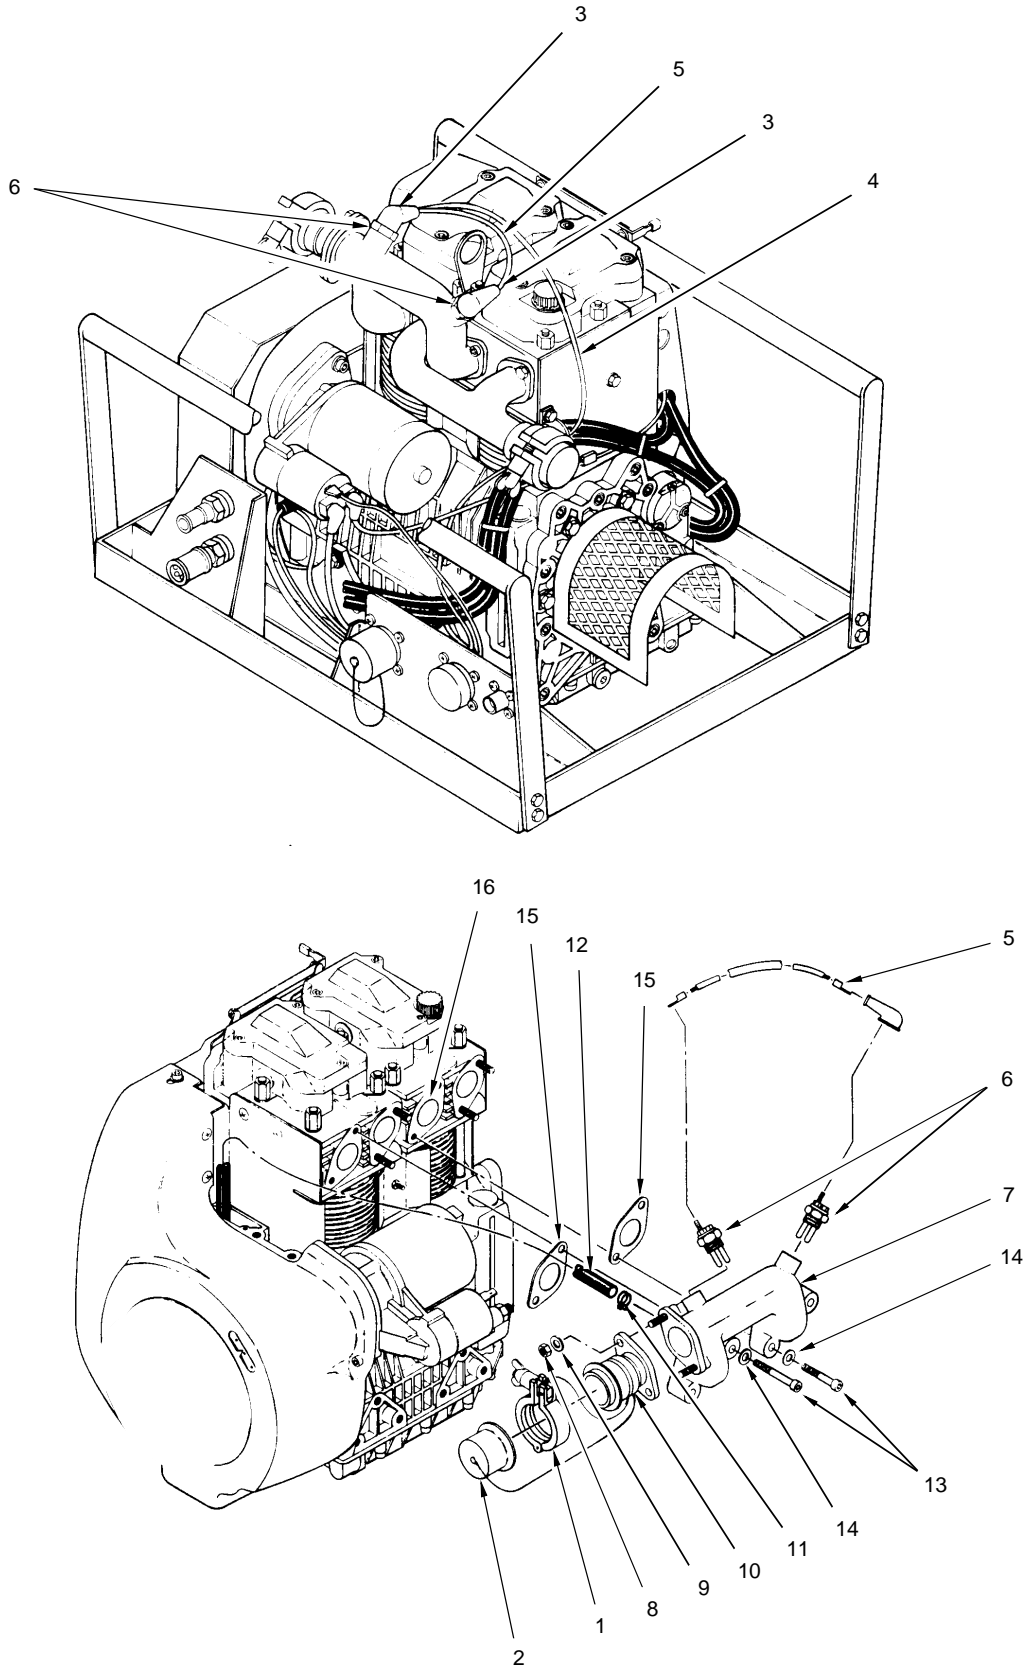

Figure 2. Intake Manifold Removal
**REMOVE INTAKE MANIFOLD** (Refer to figure 2.)